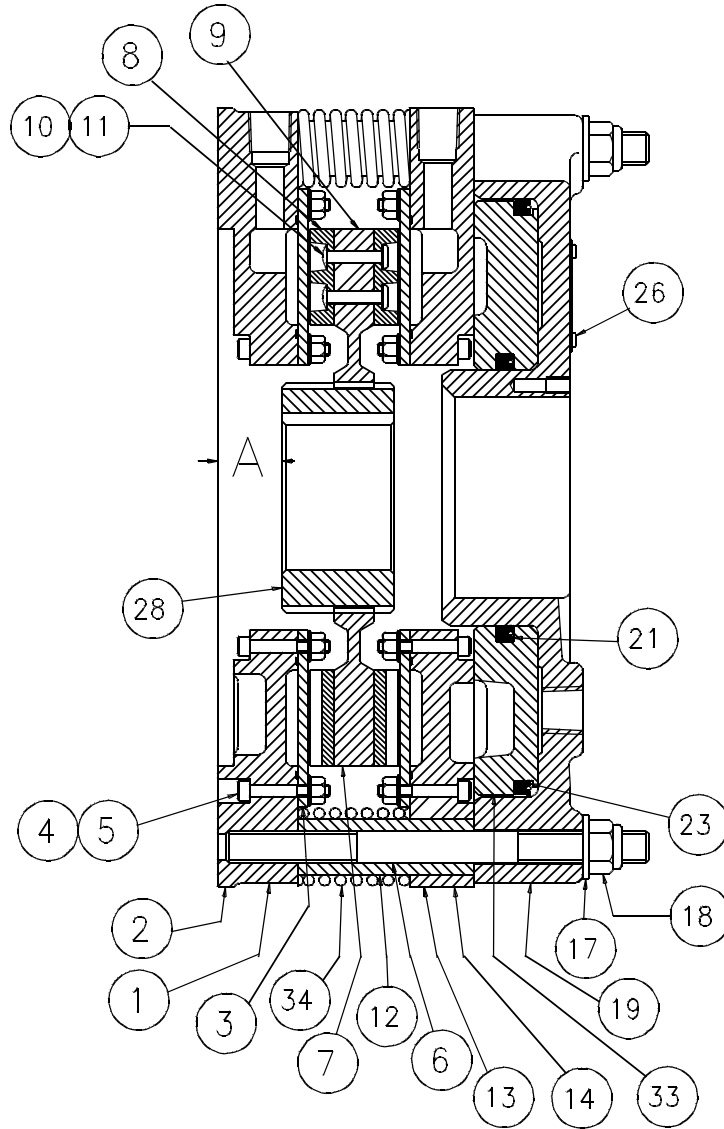

Figure 1
Item Description for 8 & 14 WCB (Figure 1 & 3)
- 1.4.1 Refer to Figure 1. Air is introduced to the unit causing the pressure plate assembly (13) to move and make contact with the friction discs (8). Torque is transmitted through the studs (6) to the mounting flange (2). The release springs (34) assist in disengagement and retraction of the piston and pressure plate. High heat dissipation is accomplished by passing water through a special cavity behind copper wear plates (3).